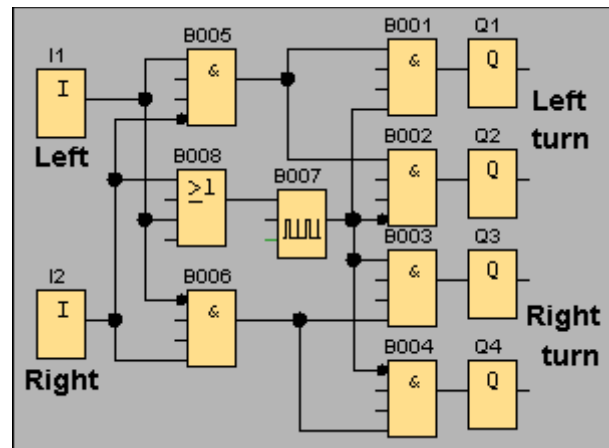

Fig. 6.10A Problem #4 in [FBD]
- 1: Set up, simulate and verify the circuit of Fig. 6.10A, a solution for *Problem #4*.